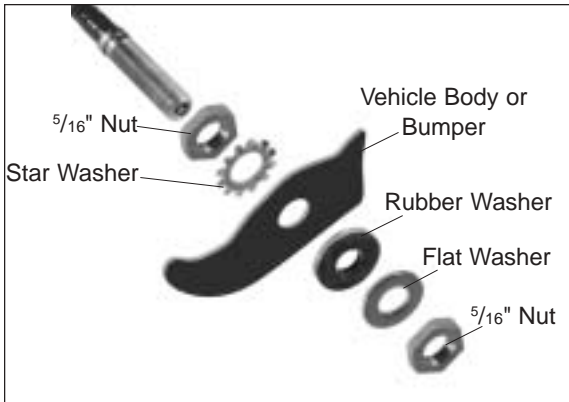

Figure 8
5. Push the inflation valve through the hole and use the rubber washer (EE), flat washer (DD), and another  $\frac{5}{16}$ " nut (GG) to secure it in place. Tighten the nuts to secure the assembly in place (Figure 8).
6. Route the air line along the frame to the air fitting on the air spring. Keep at least 6" of clearance between the air line and heat sources, such as the exhaust pipes, muffler, or catalytic converter. Avoid sharp bends and edges. Use the plastic tie straps (BB) to secure the air line to fixed, non-moving points along the chassis. Be sure that the tie straps are tight, but do not pinch the air line. Leave at least 2" of slack to allow for any movement that might pull on the air line.